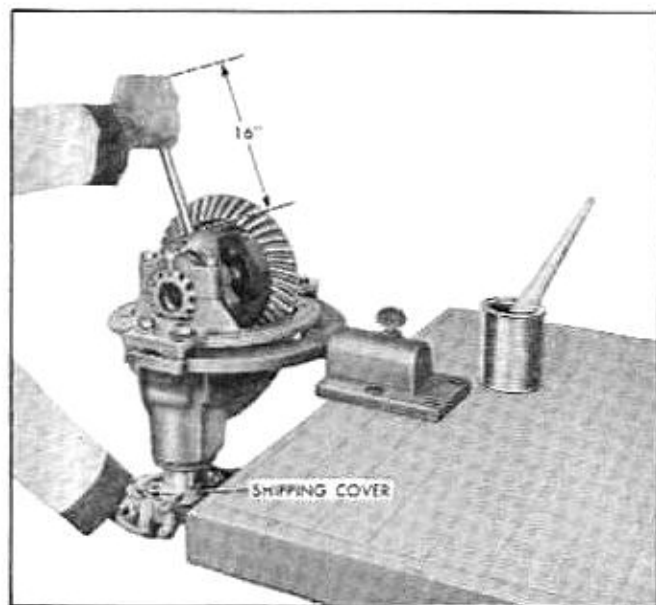

Fig. 4-25 Checking Tooth Contact Pattern—Red Lead Test
7. Insert a 3/4" diameter bar into pinion shaft holes in differential case. Load gear set by using left hand (protected by a cloth) as a brake on flange shipping cover while right hand is rocking the ring gear back and forth several times with a grip on the bar about 16" from the case (Fig. 4-25). A pattern should be impressed on all ring gear teeth. A test made without loading the gears will not give a satisfactory pattern.